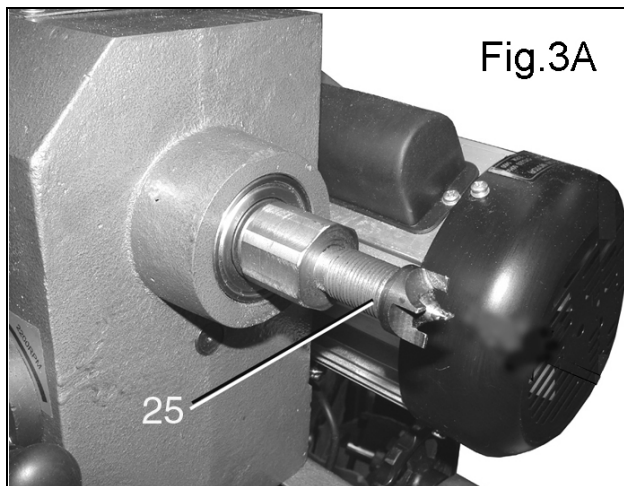

Fig.3A
2. If spur turning is required, insert the headstock spur (25) into the tapered hole in the headstock spindle as shown in Fig 3a.